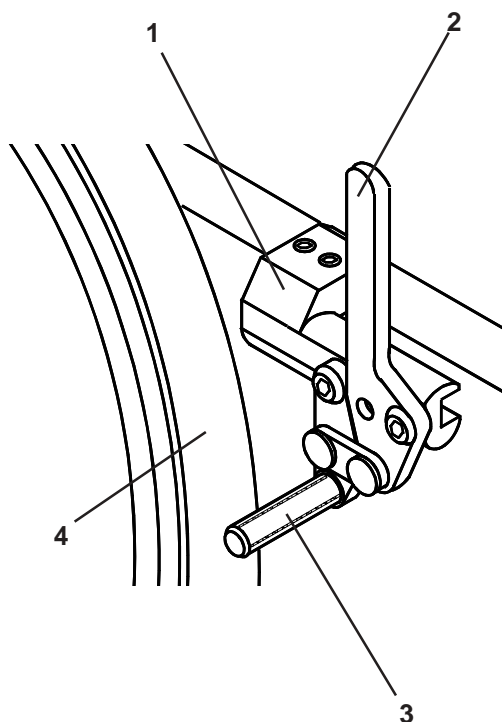

Fig. 23
High mount push-to-lock wheel locks are shown in (Fig. 23). The wheel lock mounts on a clamping system (1) and is correctly set prior to leaving the factory. To apply the wheel lock simply push the operating lever (2) forwards until you feel it go over centre, and the grip bar (3) grips the tyre (4). The operating lever (2) can have a detachable extension which can be removed to create space for side transfers. When the wheel lock is applied remove the operating lever extension by pulling it off the brake. Refit when you are resealed. It is attached by a cord to the wheel lock and cannot fall off.